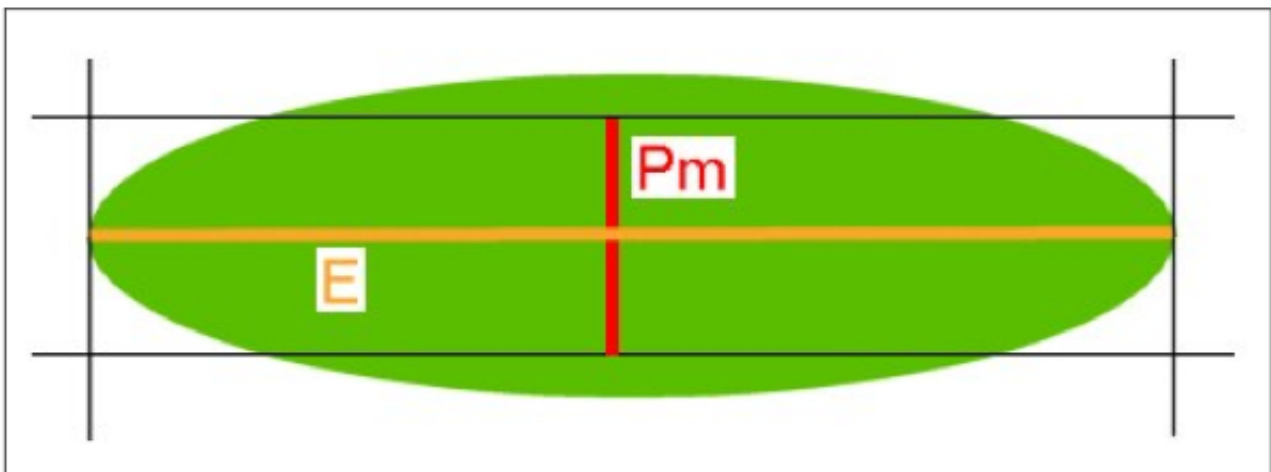
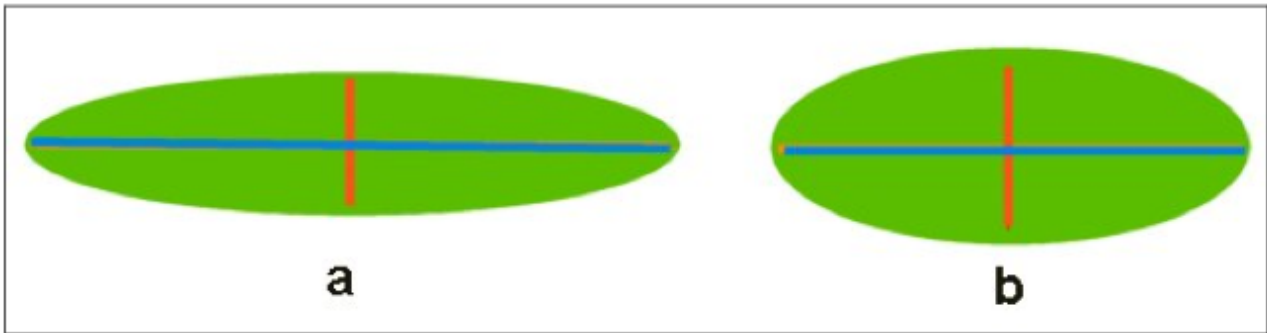

Figure A25: wingspan (E) and average depth (Pm) of a wing.
Figure A27: $a = b =$ large and small aspect ratios
Average depth: average difference between the leading edge and trailing edge of the wing. **Question 073.** It is expressed in general meters. See Figure A25. The relationship between the surface area (S) and the average depth (p) and wingspan (e): $S = p \times e$ or $p = S / e$.
In fact, the product $p \times e$ (wingspan \times average depth) is just the area of the wing. See Figure A25. **Question 078.** The latter formula $\text{wingspan}^2 / \text{area}$ is more practical. For the “effective” aspect ratio (flat wing), we take the actual (“flat”) values of the wingspan and the area. For the “projected” aspect ratio, we longer we take the projected values of the wingspan and area. With experience and practice, it is easy to recognize, at first glance, a high aspect ratio wing as having a modest elongation. The high aspect ratio wings therefore have a large wingspan and a small average depth. The wings are therefore a little longer with much smaller average depth. Figure A27. **Questions 079 and 080.**